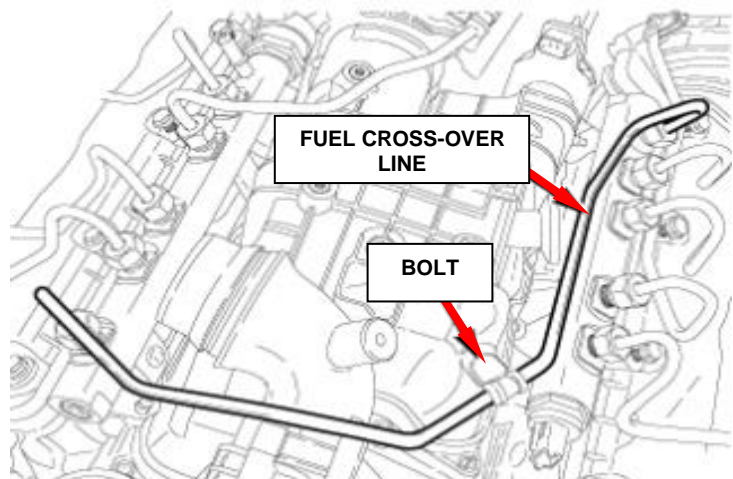

Figure 17 – Fuel Cross Over Line
19. Remove the bolt that secures the fuel cross-over line to the intake manifold (Figure 17).